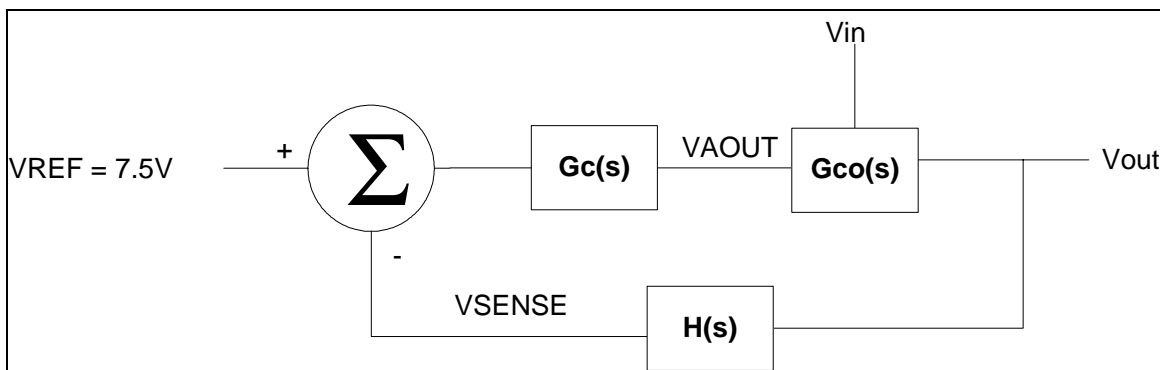
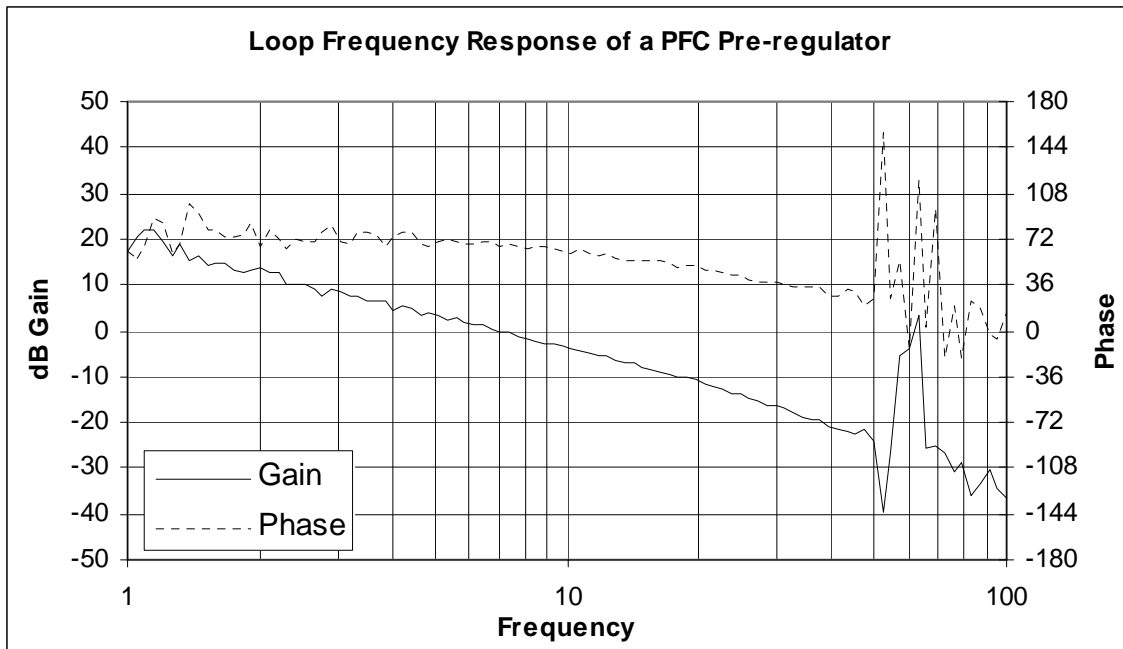

Fig. 2: Voltage Loop Control Block Diagram
Fig. 3: Voltage Loop Frequency Response
Power Factor Corrected (PFC) Pre-regulator boost converters are generally compensated with a slow voltage loop (Fig. 2) to reduce input current total harmonic distortion (THD). In most applications, the PFC Pre-regulator's small signal voltage loop is designed to cross over at less than one seventeenth of the line frequency. In an offline converter with a 60-Hz line frequency, the voltage loop would crossover at less than 10 Hz. Fig. 3 shows the typical voltage loop frequency response of PFC pre-regulator operating off a 60-Hz line.
The power supply was designed to have the output voltage (Vout) tracking the soft-start (SS) voltage at pin 13 of the UCC3817 PFC controller. However, because the voltage loop of the converter was slow, it did not track SS and overshoot during power-up and peaked at roughly 435 V, an overshoot of approximately 13%. From the waveforms in Fig. 3 it can be observed that the soft start function of the control IC was working correctly. The output voltage and VAOUT tracked soft-start until the output reaches 385 V. Once VOUT goes above 385 V, the voltage amplifier output goes low demanding a minimum duty cycle, but the voltage loop is too slow to prevent the overshoot.